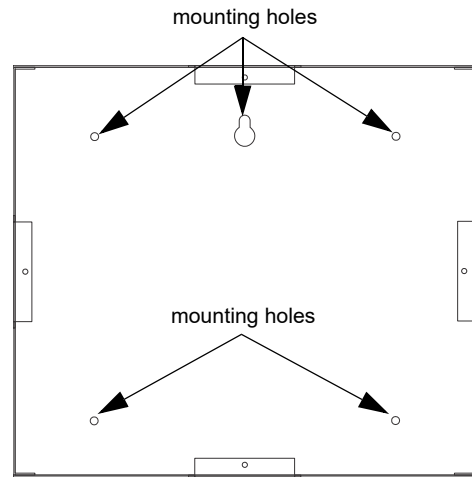

Figure 2 TR-RD2R/G Backbox Mounting
2. Mark and pre-drill hole in the wall for the center top keyhole mounting bolt. Refer to Figure 2 for mounting hole locations.